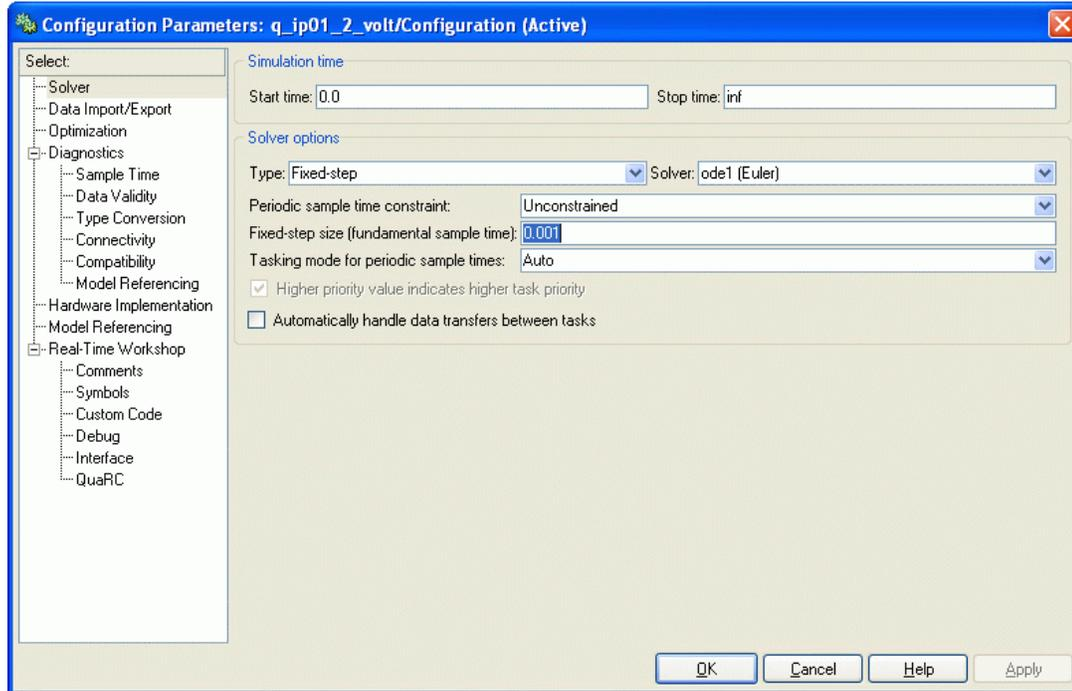

Figure 6: Configuring the Simulink model solver.
3. Click on the the *Solver* item in the left-hand pane to open the window shown in Figure 6.